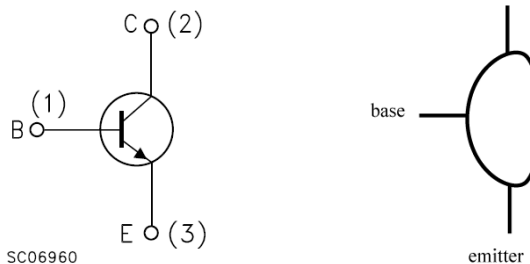

Figure 2: NPN BJT Internal schematic (left) and physical device (right)
- 2) The NPN BJT is represented by the symbol shown in Figure 2, and it has three terminals. If you hold the BJT with the flat part to your right, then the collector is on top, the base is in the middle, and the emitter is on the bottom.